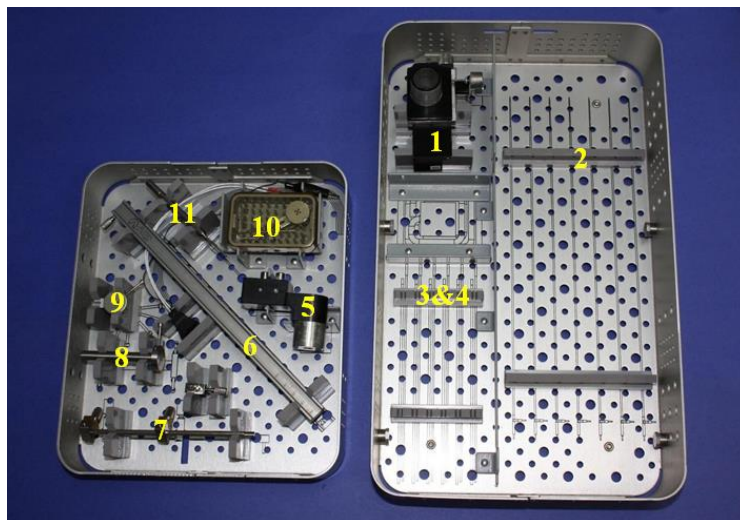

Figure 24: Autoclave Tray
- Referring to Figure 24, place them in the autoclave for sterilization in accordance with in-house standard operating procedures for sterilizing surgical equipment.